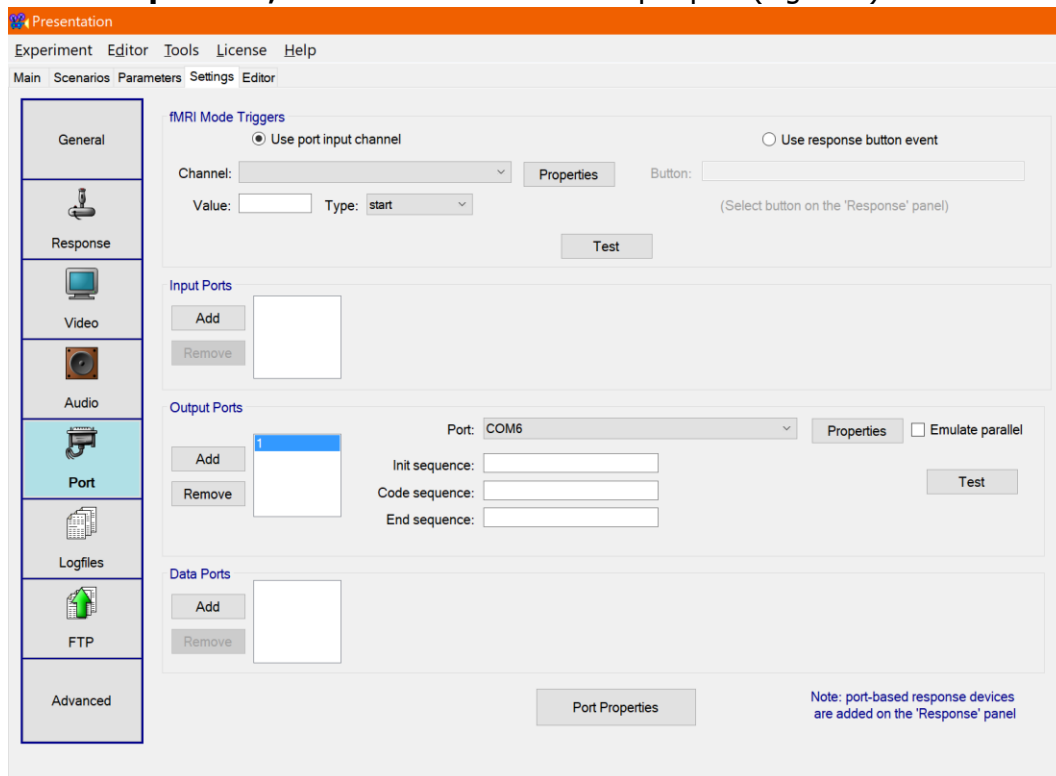

Figure 6: Presentation® Settings Tab
- 3) Under **Output Port**, click **Add** to add a new output port (Figure 6).